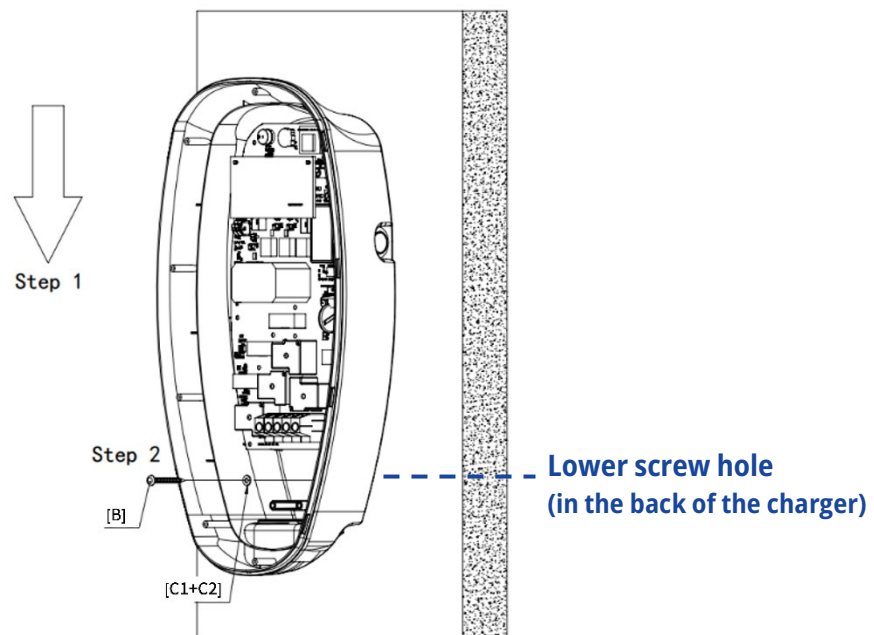

Figure 4.4 Installing the Charger on the Wall
- 5) After the positioning plate is fixed in a horizontally leveled position, install the charger on the positioning plate by sliding it down in the direction of the arrow (depicted as **Step 1**) on the left of **Figure 4.4**, till the device hangs firmly.
- 6) Use the one remaining mounting screw (**Accessory B**) and the 2-piece waterproof gaskets (**Accessory C**) to fix the lower part of the charger on the lower screw hole on the wall (**Step 2** as shown in **Figure 4.4**).